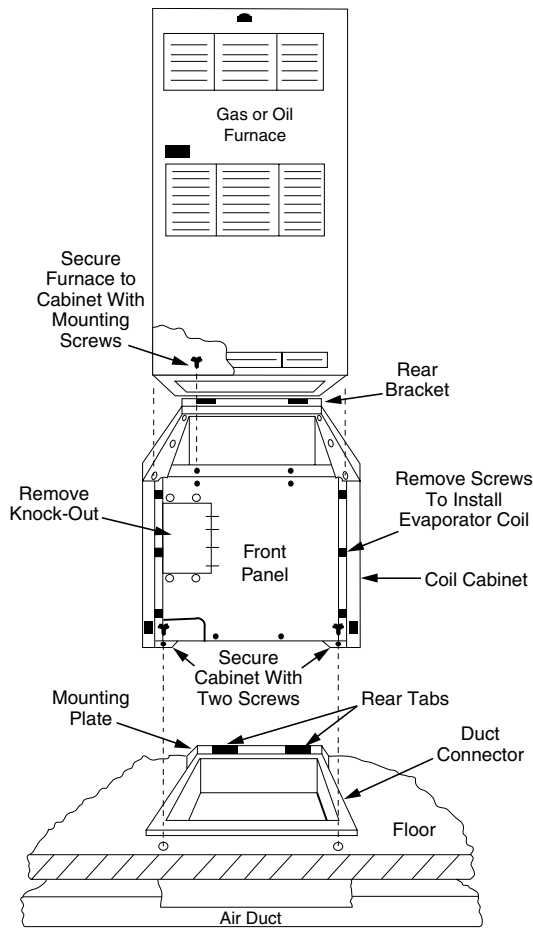

Figure 1. Gas or Oil Furnace
4. Remove the furnace mounting screws from the front corners of the furnace and slide the furnace off of the duct connector. See Figure 1.
6. Slide the coil cabinet back onto the mounting plate until the rear tabs (Figure 1) engage with the coil cabinet.